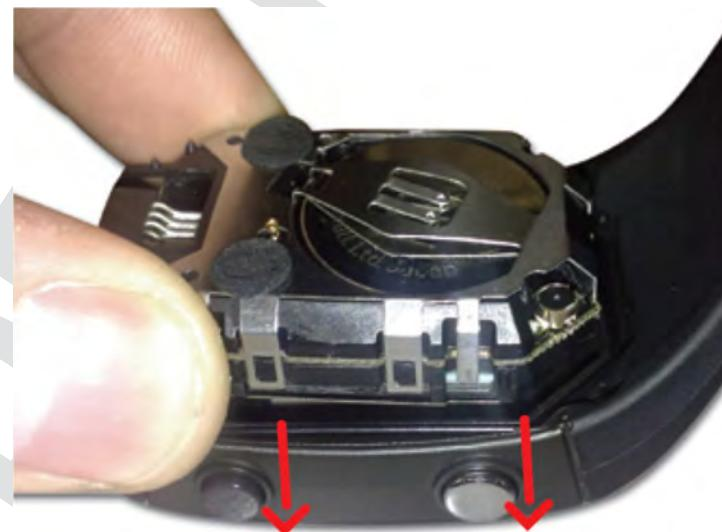
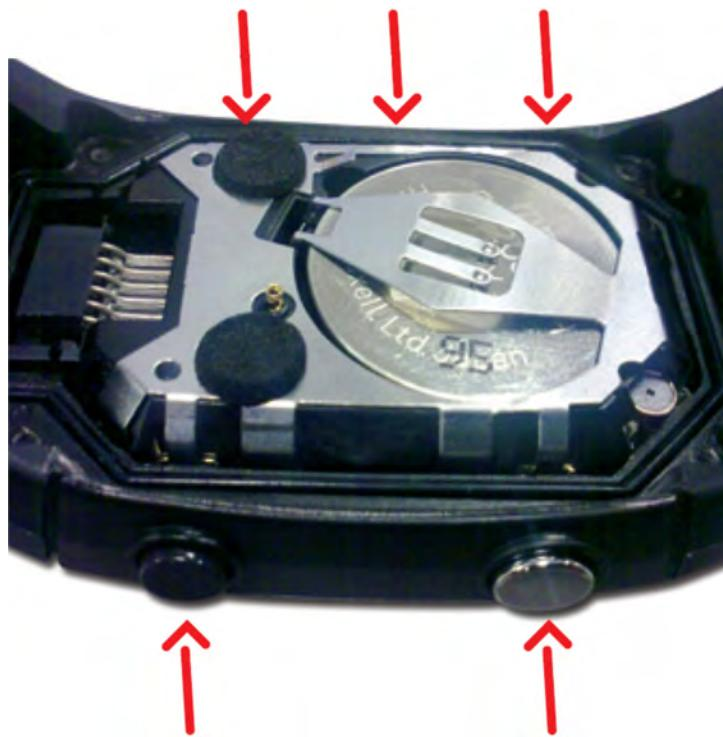

Figure 4-4. eZ430-Chronos Watch Module Insertion Into Housing
Figure 4-5. Metal Strips of Watch Housing and Buttons of Housing
2. Gently insert watch module into the housing. Insert it in parallel to the housing. Do not try to insert one side first (see Figure 4-4). Ensure that the small metal strips of the buttons on watch module slide over buttons of the housing (see Figure 4-5).